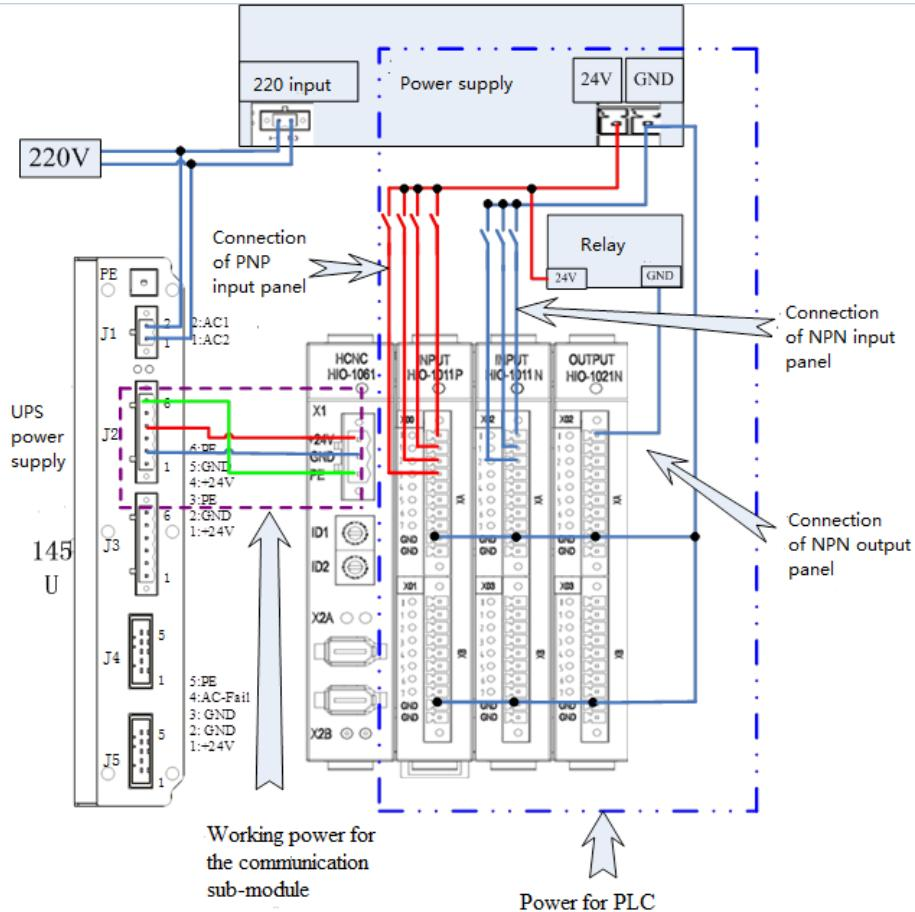

Figure 2.2.3 Bus I/O electrical connection diagram
The electrical connection of HIO-1011 PNP input panel, HIO-1011NPN input panel, and HIO-1021NPN output panel on the Bus I/O is as shown in Figure 2.2.3.
**Note:** The power introduced by the communication sub-module is used as the working power for the Bus I/O unit. Different power supply should be used for the Bus I/O and the external circuits (e.g. PLC circuit, non-contact switch, travel switch, relays, etc.) related to the input/output sub-modules. The latter is also called as PLC power supply. See Figure 2.2.3.